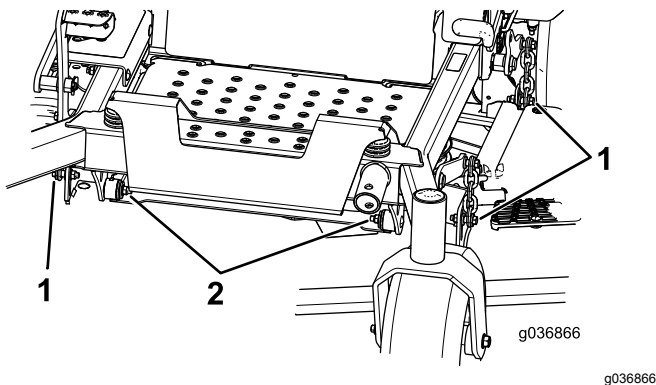

Figure 113
7. Remove and retain the bolts and nuts on both sides of the machine (Figure 113).